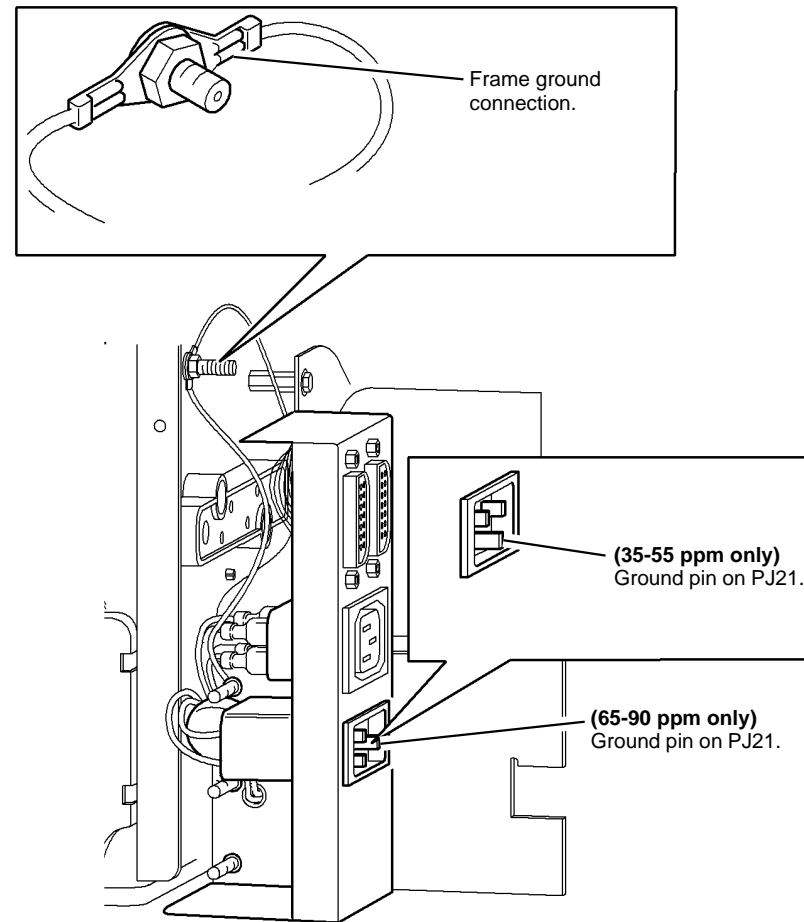

Figure 4 Ground connection check
3. **Figure 4.** Use a digital multimeter set to a resistance range. Verify that there is continuity between the ground pin on PJ21 and the frame ground connection.